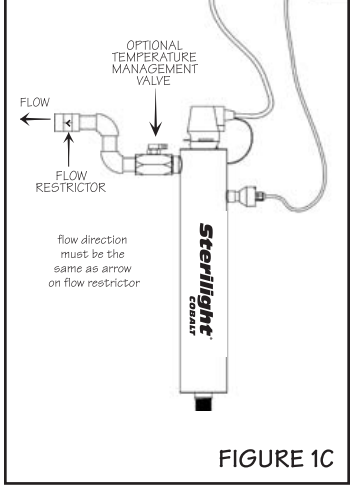

FIGURE 1C
3. Mount the system to the wall using the supplied clamps. Various connection methods can be used to connect the water source to the system, however union type connectors are recommended. The use of a flow restrictor device is strongly recommended when installing your system in order to maintain the manufacturers rated flow rate for NSF certified systems (flow restrictors are mandatory and supplied with each NSF certified system). The flow restrictor should be installed on the outlet port and is designed to be installed in one direction only. Ensure that the flow of the water matches the flow direction as indicated on the flow restrictor (Figure 1C). **DO NOT SOLDER CONNECTIONS WHILE ATTACHED TO THE SYSTEM AS THIS COULD DAMAGE THE O-RING SEALS.**